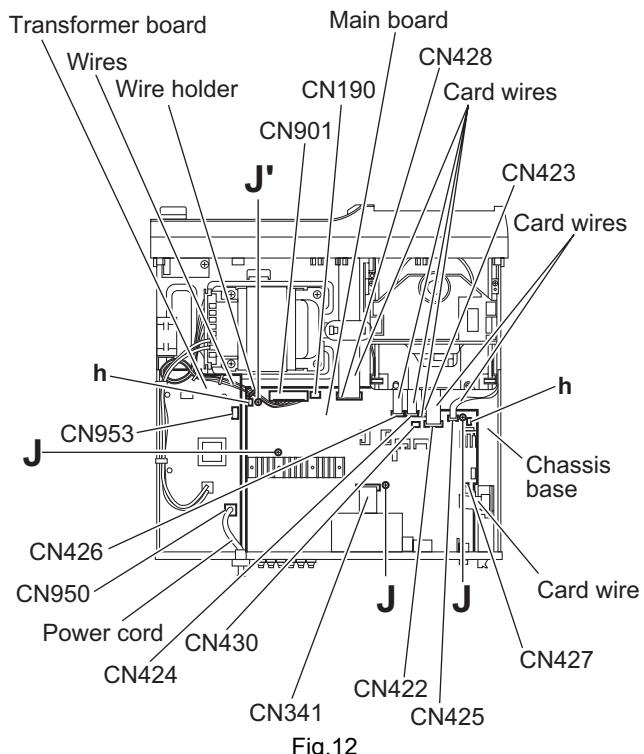

Fig.12
(See Figs.12 and 13)
(1) From the top side of the main body, disconnect the card wires from the connectors (CN341, CN422 to CN428) on the main board. [B/E/EN/EV/EE version] (See Fig.12.)
(2) From the top side of the main body, disconnect the card wires from the connectors (CN422 to CN428) on the main board. [A version] (See Fig.12.)
(3) Disconnect the wires from the connectors (CN190, CN430, CN901) on the main board. (See Fig.12.)
After connecting the wires to the connectors (CN190, CN901), fix the wires with the wire holder. (See Fig.12.)
(4) Disconnect the power cord and wire from the connectors (CN950, CN953) on the transformer board. (See Fig.12.)
(5) Remove the three screws **J** and screw **J'** attaching the main board on the chassis base. (See Fig.12.)
When attaching the screw **J'**, attach the wire holder with it. (See Fig.12.)
When attaching the main board, align the hole on the main board to the projections **h** of the chassis base before attaching the screws **J** and **J'**. (See Fig.12.)